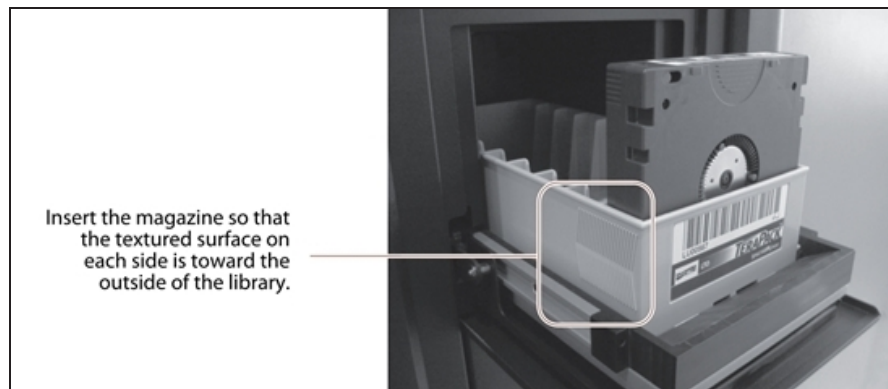

Figure 64 Insert a magazine into the TAP, making sure that it is correctly oriented.
3. Insert the magazine into the tray on the open TAP with the smooth surface side toward the outside of the library, as shown in Figure 64 on page 122.